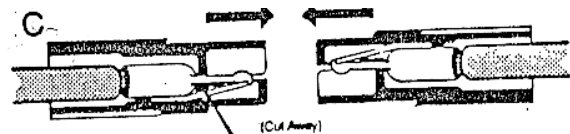
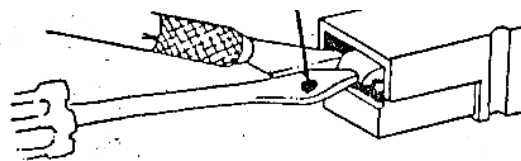

Figure 1
Figure 2
1. **Remove the damaged housing.** Insert a screwdriver between contact and spring. (See Figure 1.) Twist to separate. Push contact of the rear housing with the screwdriver. (See Figure 2.)